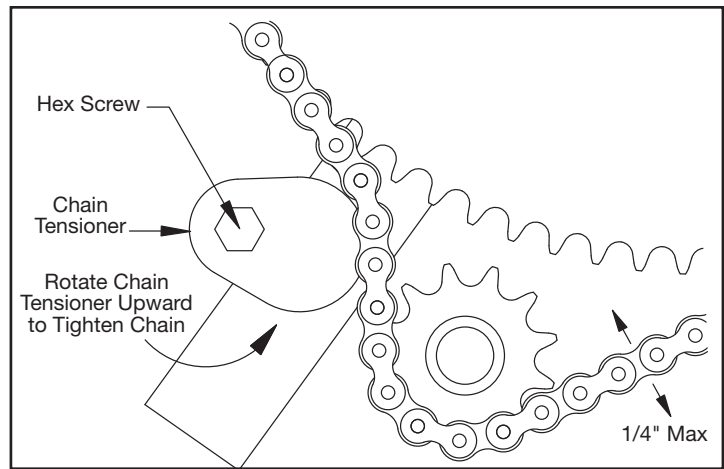

Figure 16
- To adjust, loosen hex bolt with 3/4 wrench and rotate chain tensioner toward chain as shown until chain moves no more than a total of 1/4". See Figure 16.